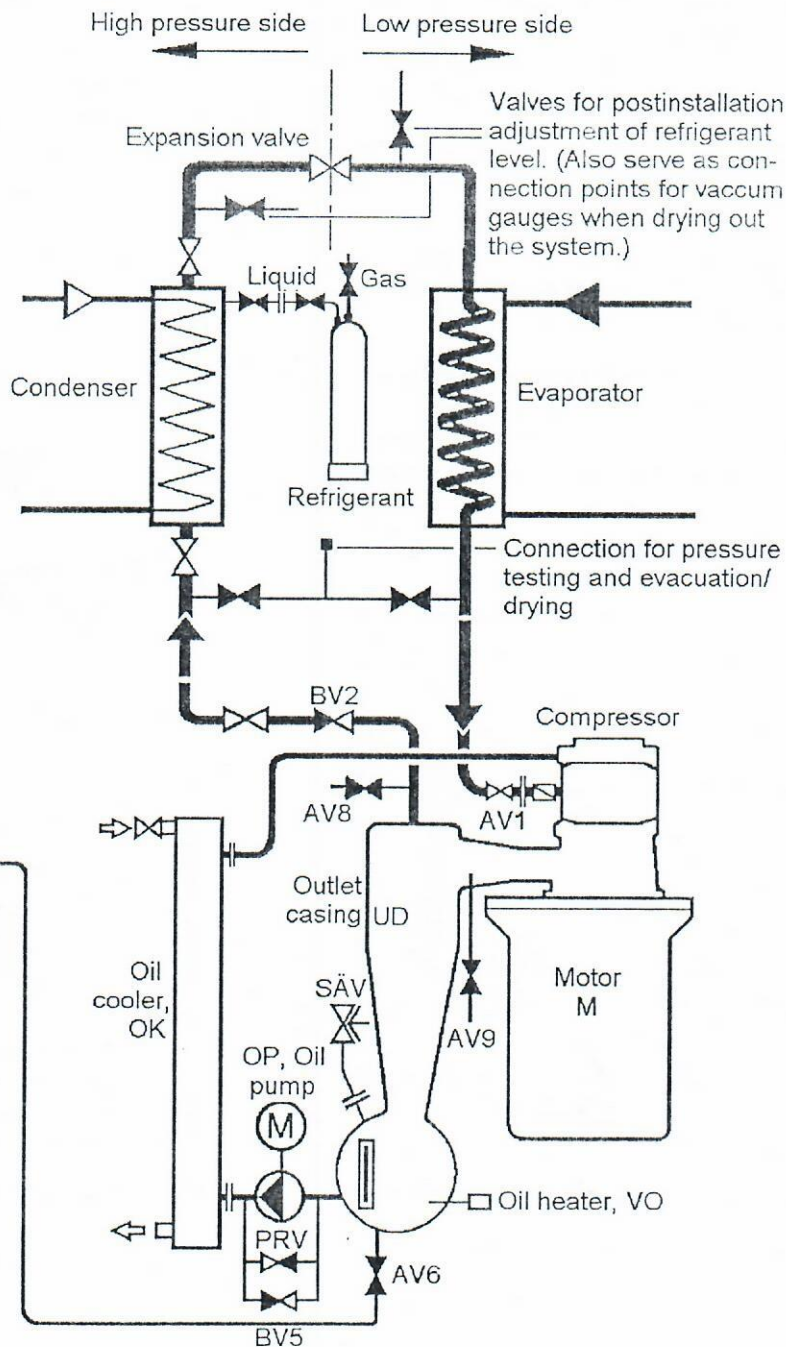

Fig. 4. Schematic diagram: pressure testing, drying/evacuation, oil filling and refrigerant filling.
Charge the system with nitrogen or dry air to a pressure of 0.2–0.3 MPa (2–3 bar) for a first rough tightness test. Follow this by pressure-testing the system with nitrogen or dry air in accordance with the unit's rating plate. See Fig. 4.
5. Remove all moisture from the screw compressor unit and the rest of the system by applying a vacuum and maintaining a temperature of at least +10°C (see Fig. 4).
Use a heavy duty hose as shown in Fig. 4, inserting one end into the oil container and ensuring that it remains beneath the surface of the oil throughout the entire filling procedure in order to prevent any air from being drawn into the system.
7. Fill the refrigerant prescribed for the plant into the condenser, liquid receiver or other container intended for it (Fig. 4).